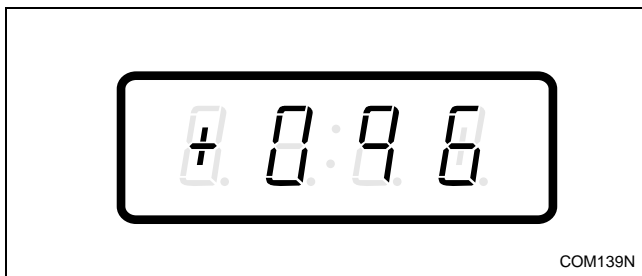

Figure 154
3. Press the DELICATES (+) or the COLD (-) keypad to scroll through the programmable options until “+096” appears in the VFD. Refer to *Figure 154*.